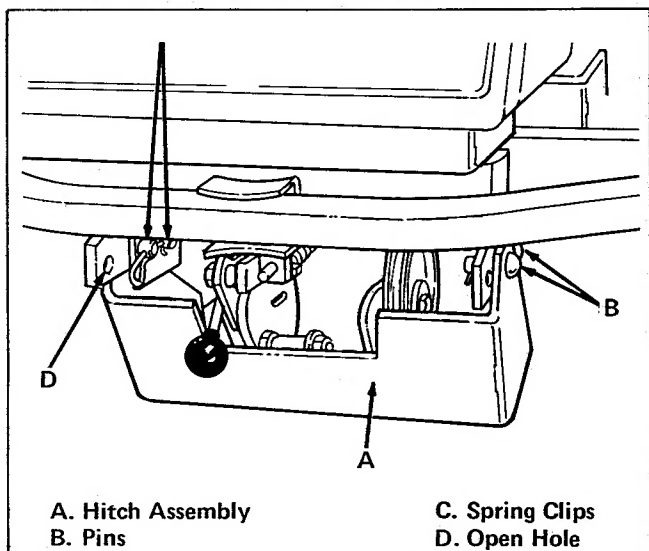

Figure 1. Hitch Assembly
1. Install hitch assembly for center-mounted implements (item A, figure 1) to front of tractor frame with four pins (item B) and spring clips (item C). Leave the first hole (item D) open.